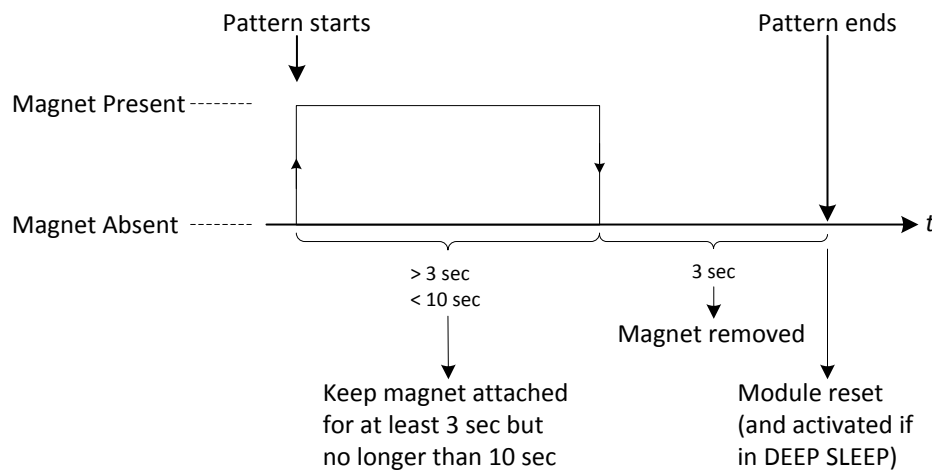

Figure 6 Agriculture Sensor magnetic reset/wake-up pattern
Here are the steps as illustrated in Figure 6:
The magnetic pattern in this case is not user configurable, and involves attaching and taking away the magnet to and from the magnet sign at the top of the enclosure once, all in less than 2 sec, as shown in Figure 6. It is important to note here that mistakenly holding the magnet attached to the module for more than 3 sec may trigger a module reset, as explained in item 1.